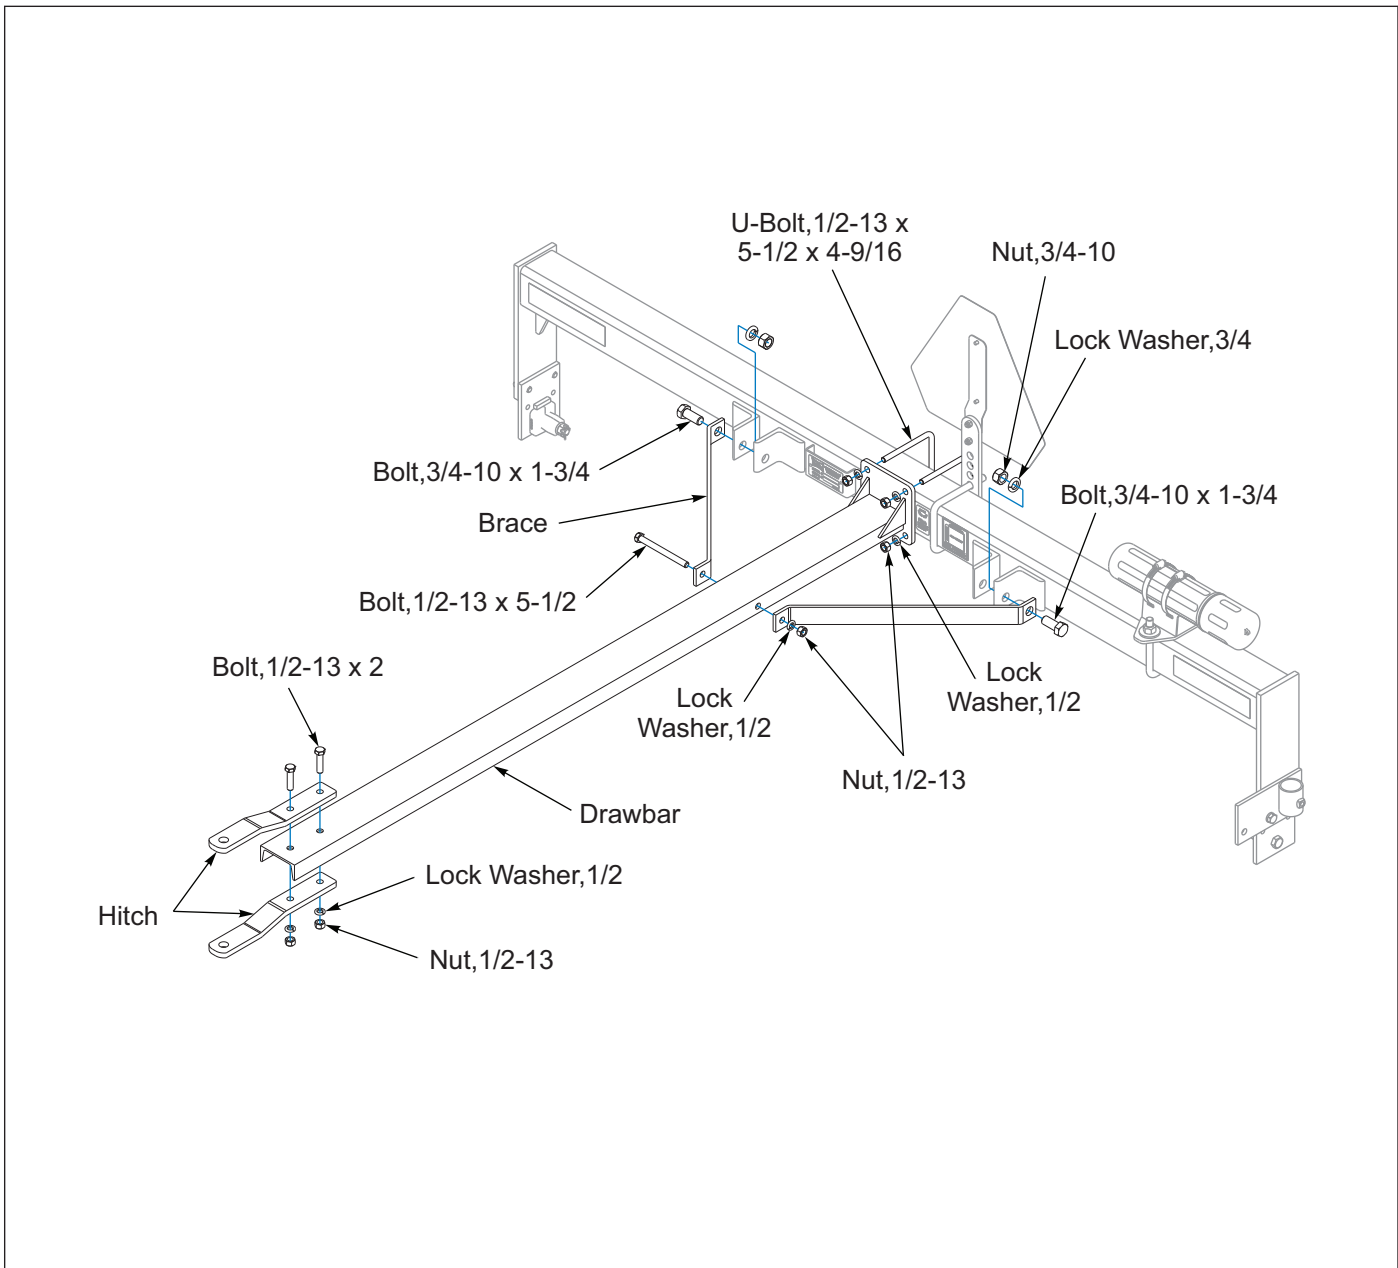

Figure 2-6: Hitch Kit, PP5-7
1. Attach Drawbar to the center of the front Frame Tube with 1/2-13 U-Bolts, Lock Washers, and Nuts. **See Figure 2-6.**